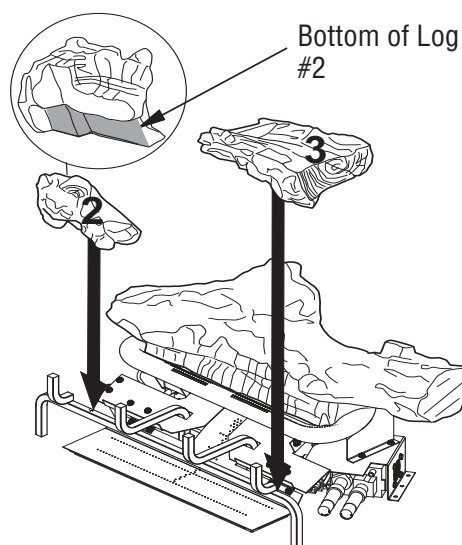

Figure 22 - Installing Logs #2 and #3
2. Place left bottom log (#2) onto base assembly as shown in **Figure 22**. See detail in drawing for contour on bottom of log. Log will fit over metal brackets and flat onto base assembly
3. Place right bottom log (#3) onto pan burner as shown in **Figure 22**.